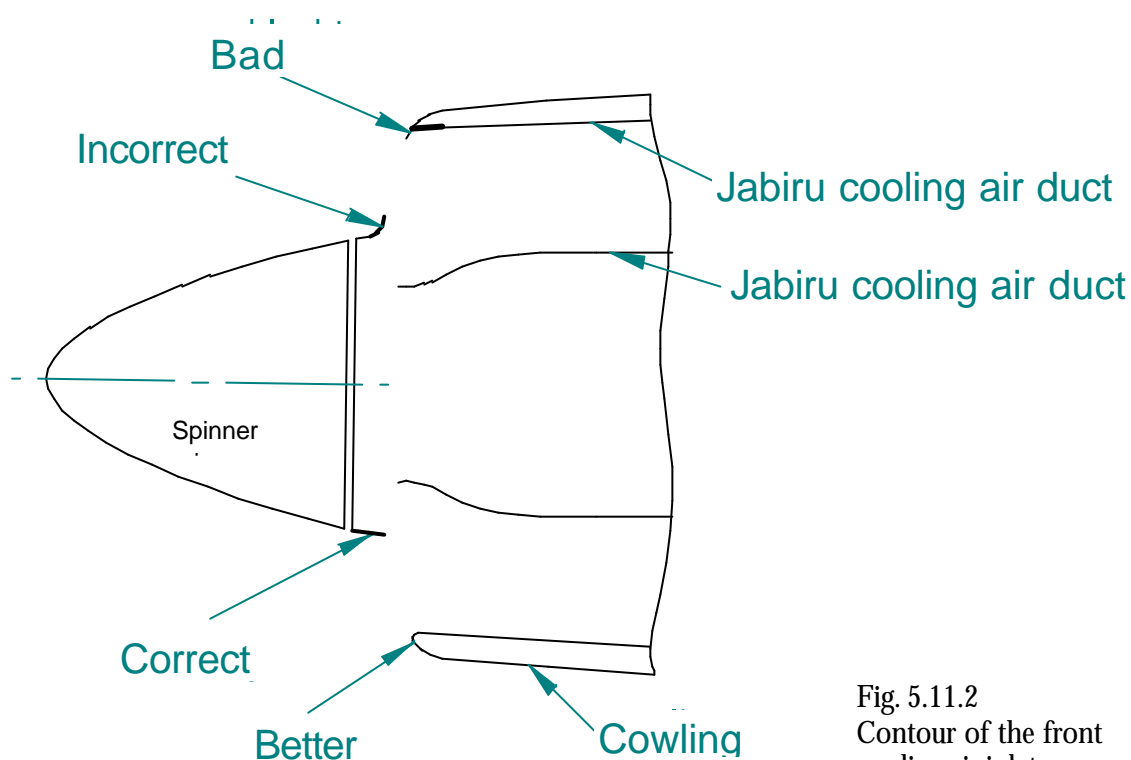

Fig. 5.11.2
1. Cut the front cooling air inlets as shown in figure 5.11.2.